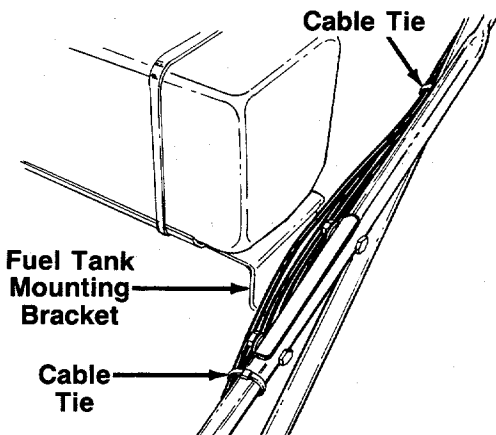

FIGURE 11.
Secure all control cables to the left handle and strut bar as follows. See figure 11.
- B. Using the other cable tie, secure the cables to the left hand strut as shown in figure 11.
← There is no hole provided in the strut bar to anchor the second cable tie. Simply position as shown in figure 11.